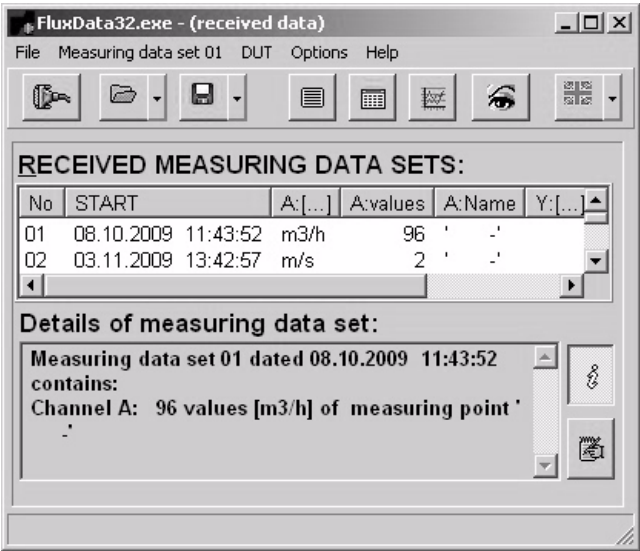

Fig. 13.3: Display of the received measuring data sets
- In the program FluxData, open the menu "DUT" and select "Receive Measuring values" (see Fig. 13.3). The received measuring data sets will be displayed (see Fig. 13.3).